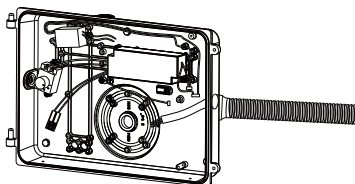

Fig. 2-3A
3. Make wiring connection from side and go through isolation treatment; Tighten the pipe on the luminaire. (Fig.2-3A&B)